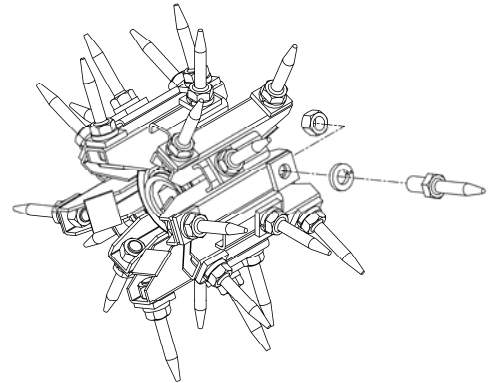

Figure 16. Rotor
5. Tines are assembled as shown in Figure 16. The tines are removed and installed using an extra deep impact socket (AE60T003), provided with shaft. **Torque tines to 210 ft-lbs.**
1. With the rotor shaft removed from the frame and secured on the floor, remove the 1-1/8" hex jam nut from the shaft end nearest to the damaged component (use Figure 16 for visual reference).